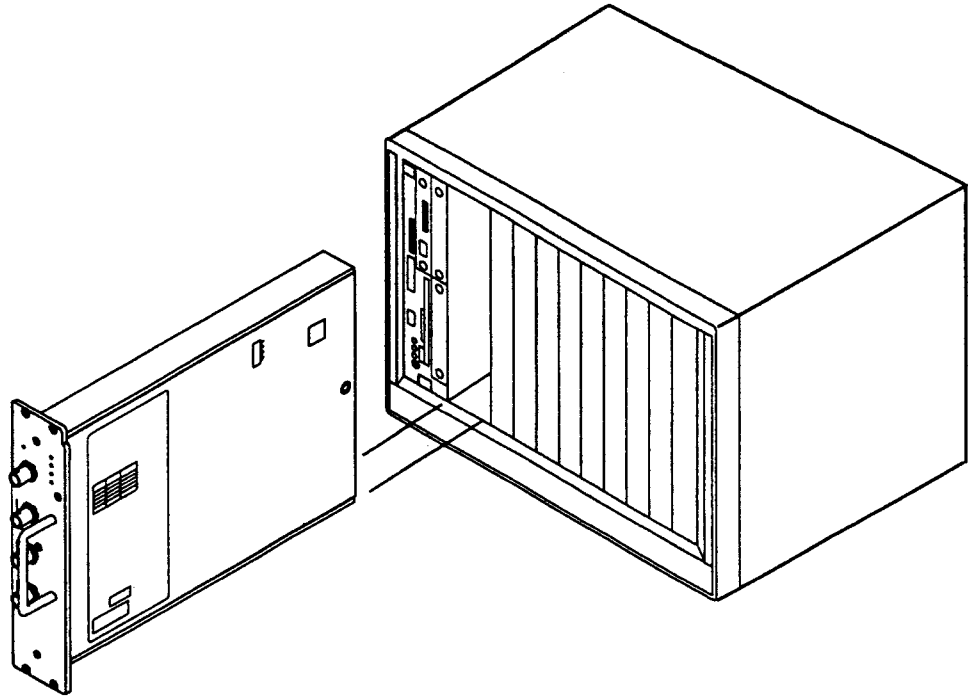

Figure 1-3 Installing the HP E1740A Time Interval Analyzer
- 2 Install the module by lining up the module with the slot guides and then pressing the module firmly into the backplane connectors as shown in Figure 1-3.**
When installing a VXI module into a mainframe that aligns the modules vertically (orientation shown in Figure 1-3), sometimes the top installation screws may tilt down and become blocked by the mainframe. This prevents the module from connecting to the backplane. A remedy for this is to pull these screws toward the front of the module before performing the installation.